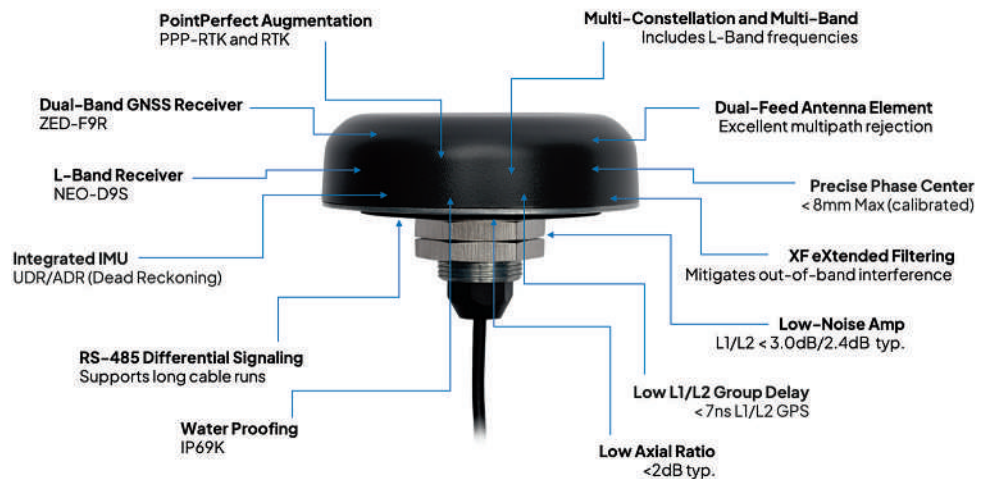

Figure 2 Tallysman's TW5390 Smart Antenna Features
Tallysman's TW5390 (See Figure 2) smart GNSS antenna integrates the industry leading TW3972XF, GNSS antenna and the u-blox ZED-F9x family of GNSS receivers. The antenna has many key features such as multi-constellation, multi-band, correction support (including L-Band options), a low axial ratio that provides excellent multi-path mitigation, a precisely calibrated phase center, Tallysman's eXtended Filtering (XF), a low noise amplifier that ensures a low noise figure and strong signal to noise ratio (C/No).
Tallysman's TW5390 multi-constellation and multi-band smart GNSS antenna supports RTK and PPP-RTK correction/augmentation technologies. GNSS augmentation technologies enable real-time sub-6 cm positioning accuracy. These features and the features listed in the TW5390 Features section (see Figure 2) make the smart antenna an ideal positioning product for applications such as navigation and positioning for precision agriculture, unmanned aerial vehicles, autonomous vehicles, surveying, and all precision applications.